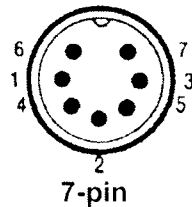

Figure 1
5. **Test the controls** : Disconnect the 7 pin socket N°5 from the power unit. See appendix 1 page 2-4. Measure the resistance between terminals 1 and 3 (see figure 1) using an ohmmeter (see appendix 2).